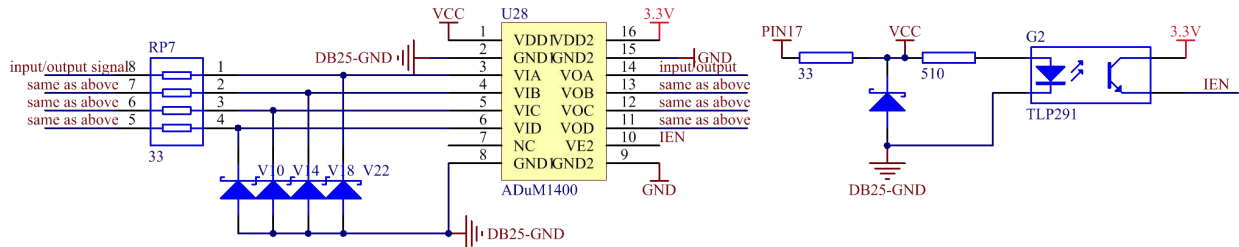

Figure 8.Schematic of input and output signals.
- 8) I/O connection of digital signal: the supply current of input signals are less than 10mA, and the supply current of output signals are less than 3 mA. The connection circuit of input and output signals is shown in Fig. 8.